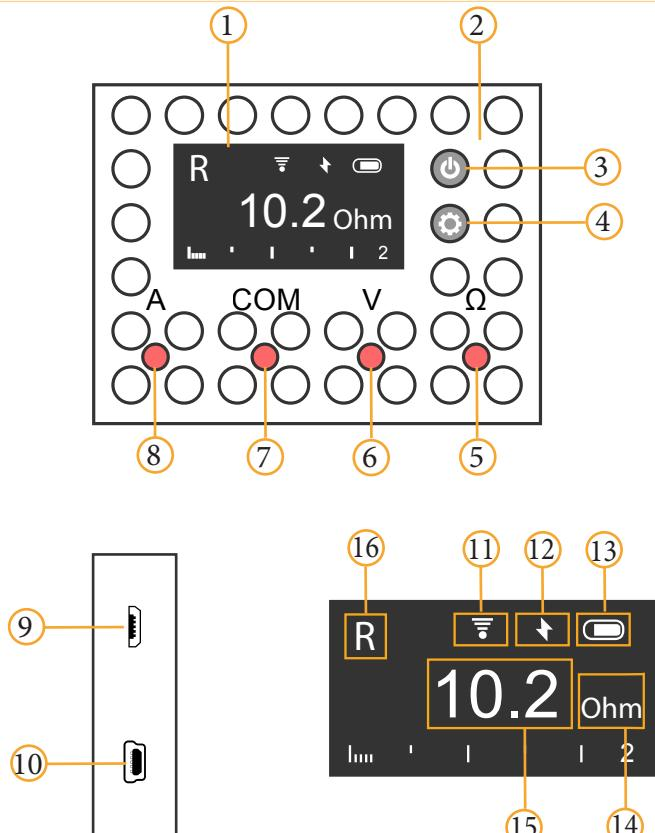

figure 6.1
You can switch between “**V~**” and “**V=**” measurement modes by briefly pressing the settings button (**4 in Figure 6.1**). Similarly, you can switch between “**A~**” and “**A=**” modes.
- The device is switched on with the power button (**3 in Figure 6.1**). If you press this button again, the device will turn off.
- In order to charge the PSU, you must connect it with a micro-USB cable to any high-quality USB-compatible source with admissible current of **0.5-2 A**. A hidden red light emitting diode (**2 in Figure 6.1**) will light during charging. Short-term flashing of this light emitting diode is a normal process.
In order to switch to the AC measurement mode, briefly press the modes and settings button (**3 in Figure 6.1**).
- The current mode is displayed in the upper left corner of the screen (**16 in Figure 6.1**).
- If a compatible external sensor is connected to the device via a special connector (**16 in Figure 6.1**), the device will automatically switch to the mode of receiving data from this sensor.
- In order to access the settings menu, press and hold the mode control button (**3 in Figure 6.1**) for 3 seconds. In the settings mode you can find the options of turning on Wi-Fi and the current network connection status. The procedure for setting up the multimeter is similar to the procedure for setting up the power supply unit. (see section 5.5)
- In order to enter the configuration mode, connect the device to the charger, turn it on with the power button (**4 in Figure 6.1**), then press the mode control button (**3 in Figure 6.1**) and hold it for 3 seconds.